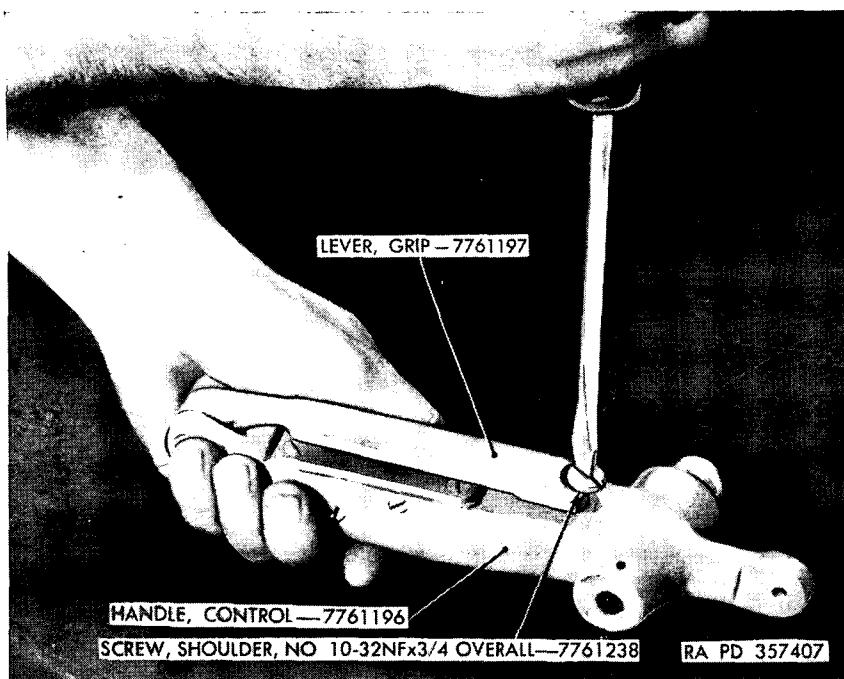
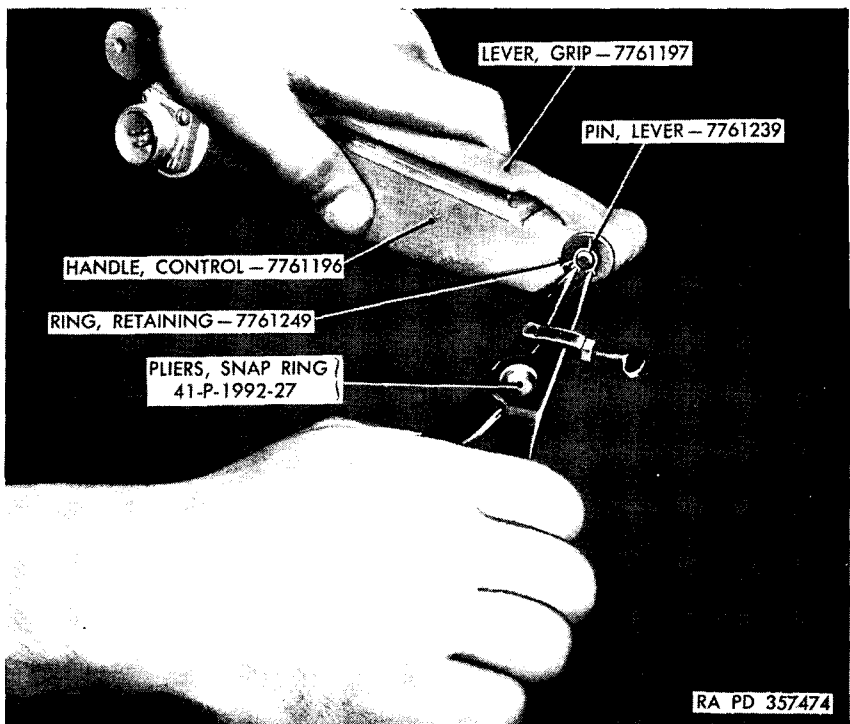

Figure 108. Removing grip-lever limit screw from commander's control handle.
Figure 109. Removing retaining ring from commander's grip lever pin.
(3) Remove screw and spring from free end of commander's control lever (fig. 108). Remove retaining ring with snap ring pliers (41-P-1992-27) (fig. 109). Remove pin and lever from handle.
- (1) Pack bearings with lubricant prescribed on lubrication order (TM9-718).
- (2) Assemble handle-centering spring to spring-centering shaft (a(4) above).
- (3) If necessary, press new needle bearings into housing. Slip shaft into housing with spring stop screws on same side of spring ears as pins in shaft.
- (4) Install receptacle assembly and gasket and fasten with four screws and lock washers. Fasten cables to terminals of switch and install switch in handle with two screws and gaskets. Install diaphragm and plate, and fasten with four screws.
- (5) Assemble lever to handle with pin and install retaining ring with snap ring pliers (41-P-1992-27) (fig. 109). Place spring in depression in handle and attach end of lever with limit screw (fig. 108).
- (6) Slip handle over protruding end of spring-centering shaft and drive pin into handle and shaft. Loosen lock nuts and adjust spring stop screws so handle has no free radial movement.